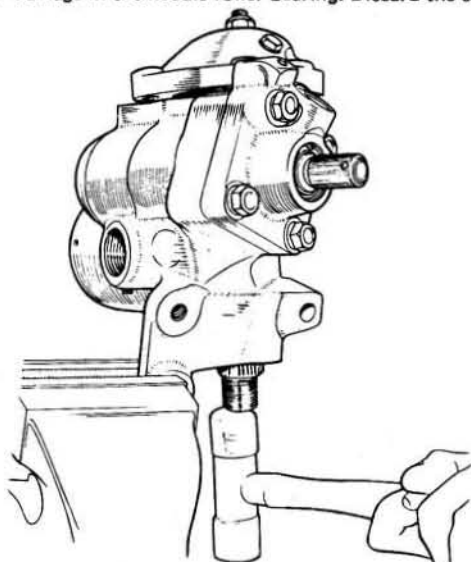

Fig.11.43. Removing the sector shaft worm follower assembly and the top cover
6 Remove the top cover (25), and the sector shaft and worm follower assembly (24) from the box by tapping on the bottom of the shaft with a hide faced hammer (Fig.11.43).